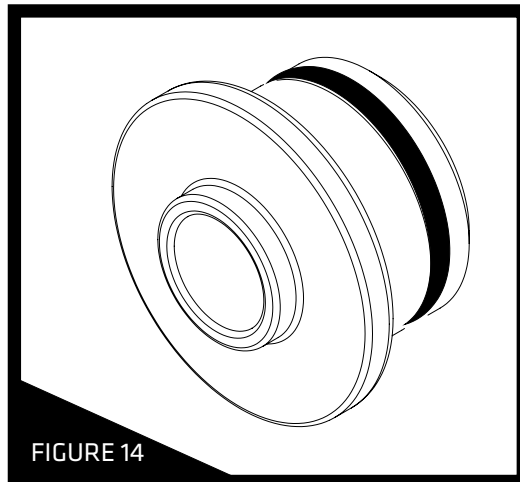

FIGURE 14
**STEP 7:** Locate the pair of Axle Adapters that correspond to your bike's thru-axle, as shown in Figure 14